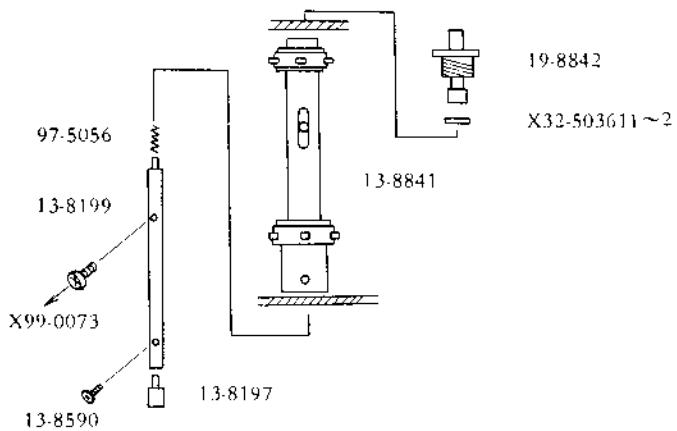

Fig. 2
4) Mount the parts in the sequence shown in Fig. 2.